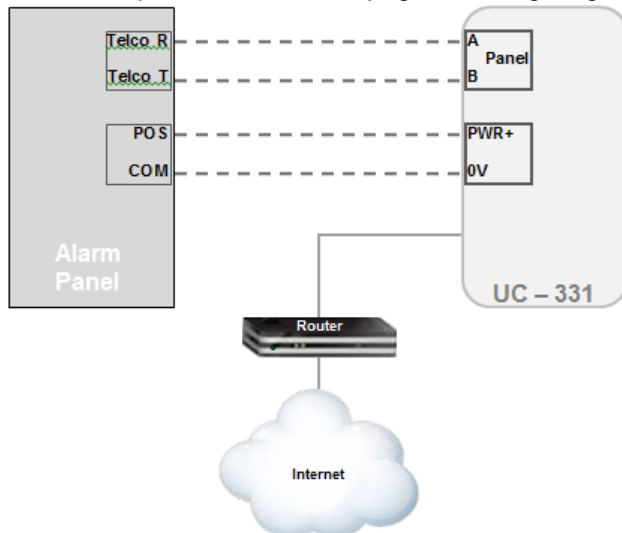

Figure 1: PSTN only panel wiring
3. Wire the UC-331-UCX to the alarm panel as shown in Figure 1. If ASIAL Serial is required, refer to next page for wiring diagram.